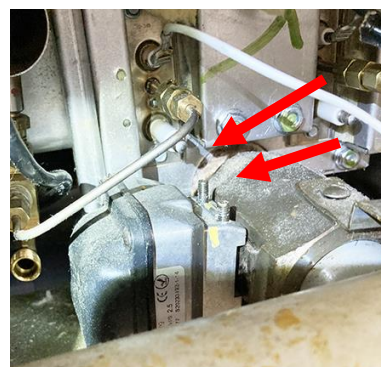

Figure 70
70. Reattach the actuator to the drain valve (see Figure 70).